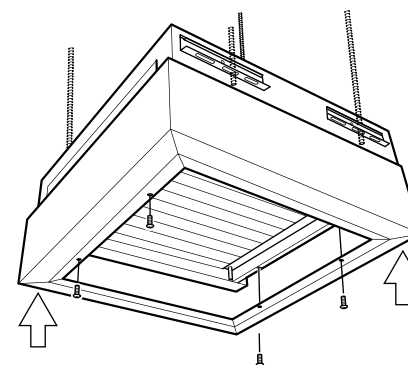

FIGURE 20. Screw placement for additional casing
- 2) Fit the additional casing over the edges of the LYRA II IQCC and screw (4 screws) into place. See **FIGURES 20 and 21**.